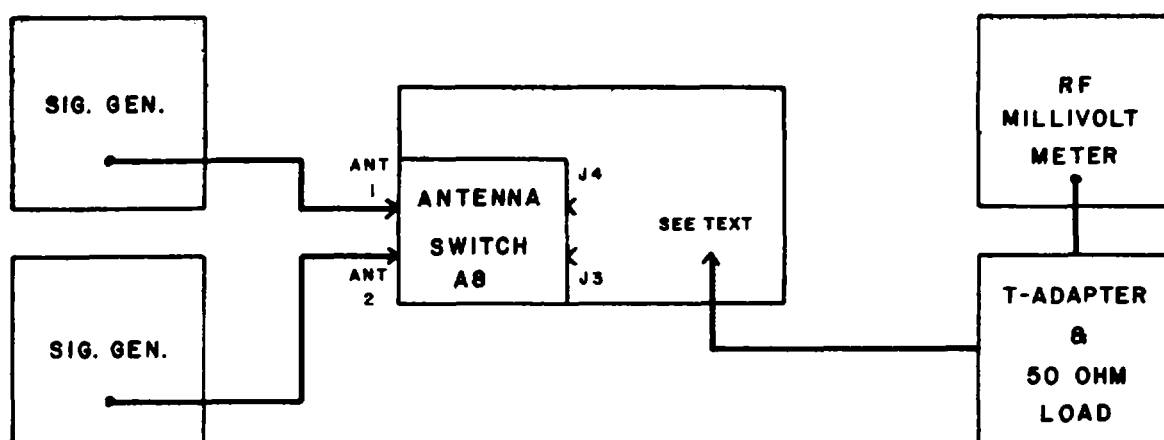

Figure 4-10. Antenna Switch Performance Test, Equipment Connections
3. Connect the test equipment as illustrated in Figure 4-10, with the RF millivoltmeter connected to J3.